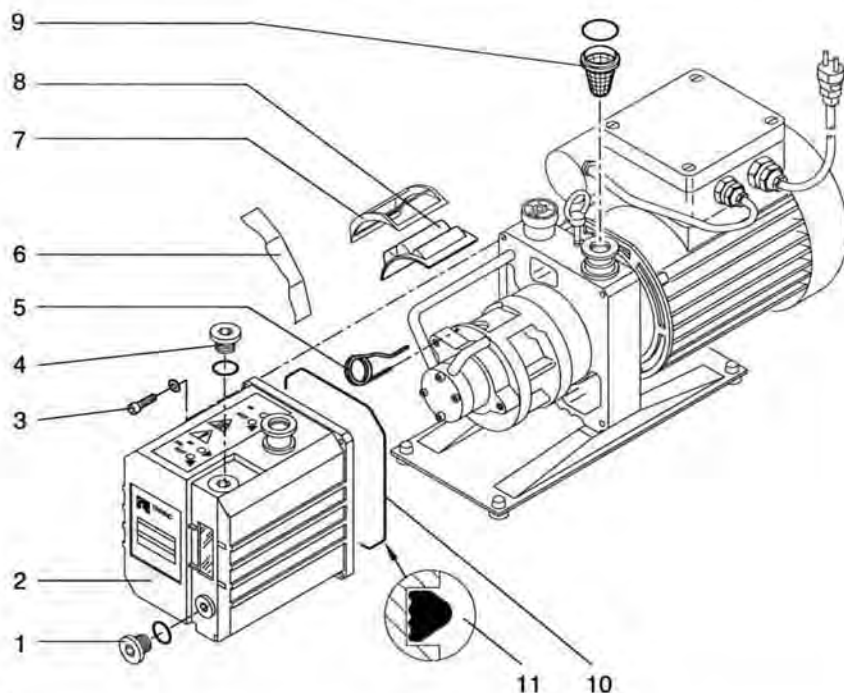

Fig. 7 Removing and inserting the internal demister
Key to Fig. 7
Caution Make sure to fit the gasket for the oil box (7/10) with the flat side in the groove, see item 11 in Fig. 7.